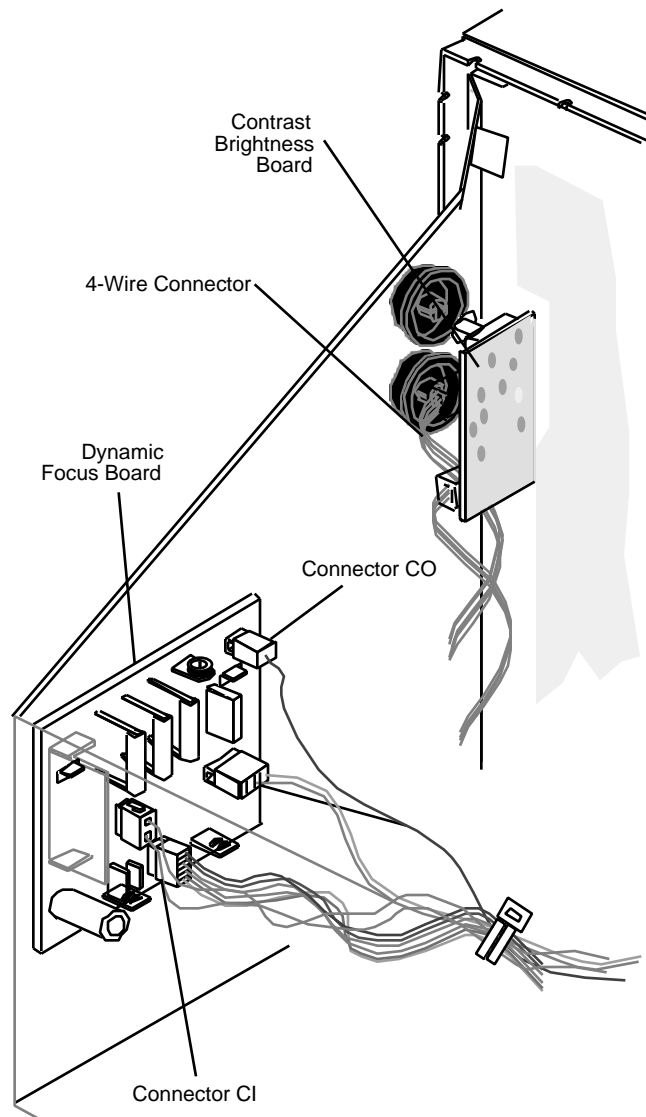

FIGURE 30
5. Connect the 3-pin, 2-wire connector to the contrast brightness board (Figure 30) .
6. Connect the following connectors to the dynamic focus board (Figure 30) :